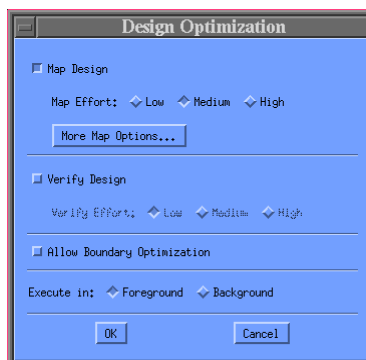

Fig. 9: Design optimization
1. Click Tools \Rightarrow Design Optimization (see Fig. 9)